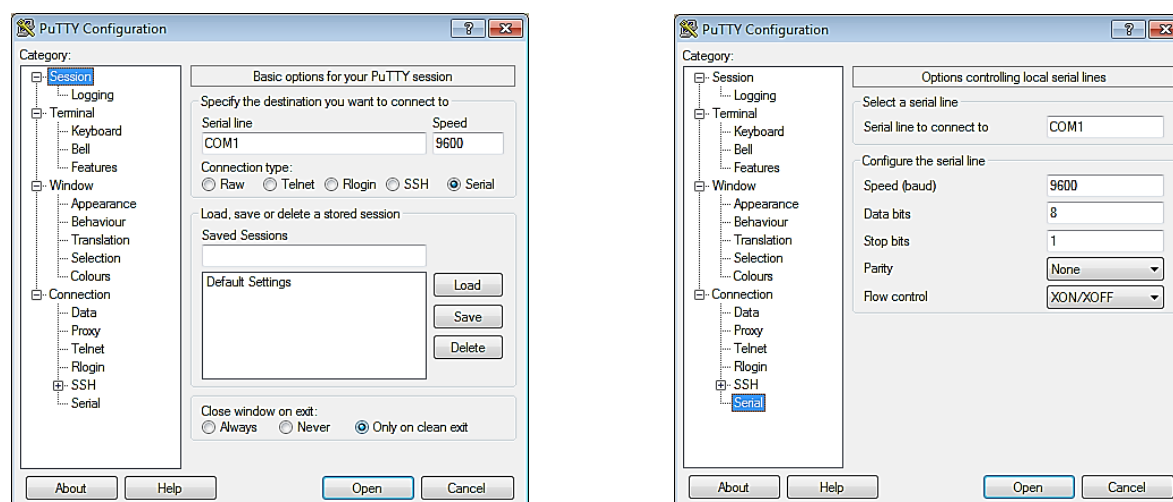

Figure 9-1: PuTTY GUI: Basic Serial Session (L) and Serial Options (R)
To use PuTTY to logon to a remote machine, bring up the PuTTY application by double-clicking its icon. You will see the main window as shown in left image of *Figure 9-1*.
To create a Serial connection, click the radio button labeled **Serial**. The **Serial line** and **Speed** fields will then be automatically filled in as shown in *left* image of Figure 9-1, but will allow you to specify the serial line to use (if your computer has more than one) and what speed (baud rate) to use when transferring data. For further configuration options (data bits, stop bits, parity, flow control), you can use the **Serial**
Configuration panel (*right* image in Figure 9-1) by selecting “Serial” in the left navigation pane.
So that you don't have to enter this information every time you wish to connect to your server, you can save this configuration by typing an appropriate *name* in the **Saved Sessions** text box in the PuTTY “Basic Options” window (left image of Figure 9-1) and then clicking the **Save** button. In the future, you can select the *name* you chose in the list box and click the **Load** button to initialize this particular configuration.
2. At the bottom of the Basic Options dialog box (left image of Figure 9-1) in the section titled: **Close window on exit**, select the **Never** radio button. This will keep the window open after the command has finished executing so that you can see any results in the terminal window.